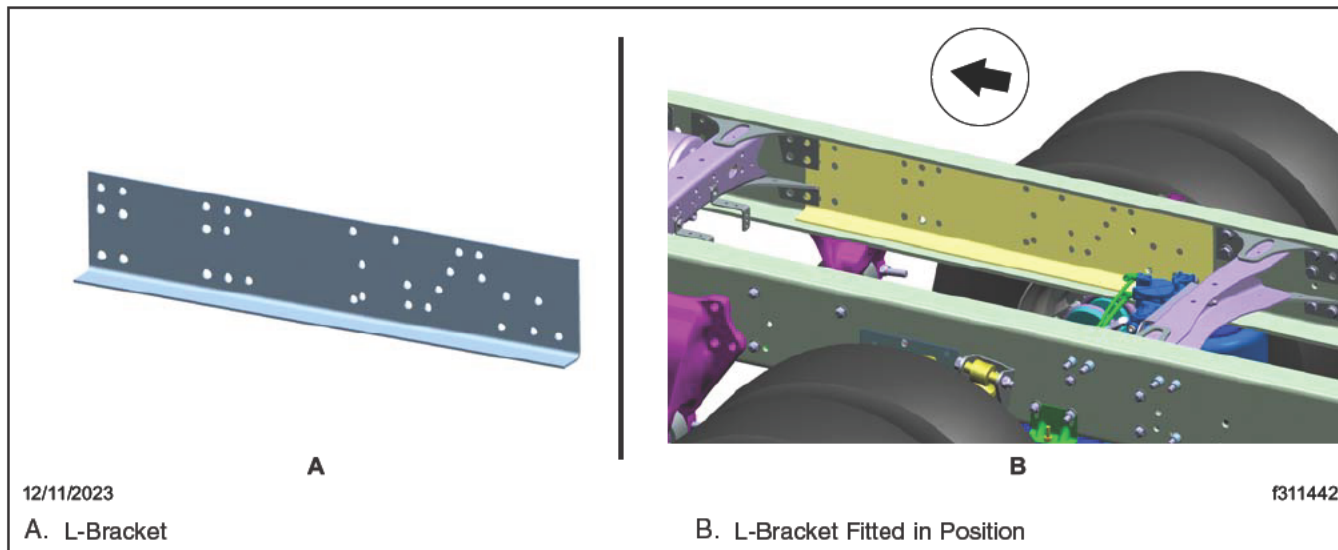

Fig. 44, Installation of the L-Bracket
15. Slide the L-bracket inside the frame rail lining and align with the pre-drilled holes, as shown in Fig. 44.